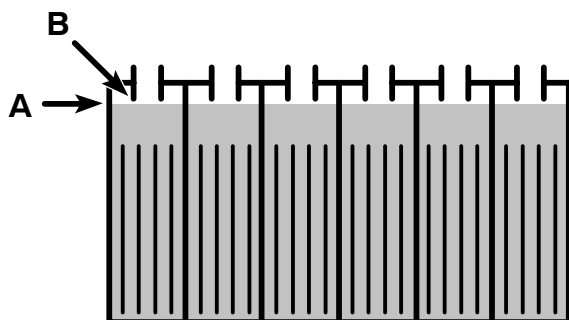

FIG. 24
8. After charging, check the electrolyte level (A) again. The level should be approximately 1 cm from the bottom of the fill-port (B) (Figure 24). Add distilled water if needed. **DO NOT OVERFILL.**